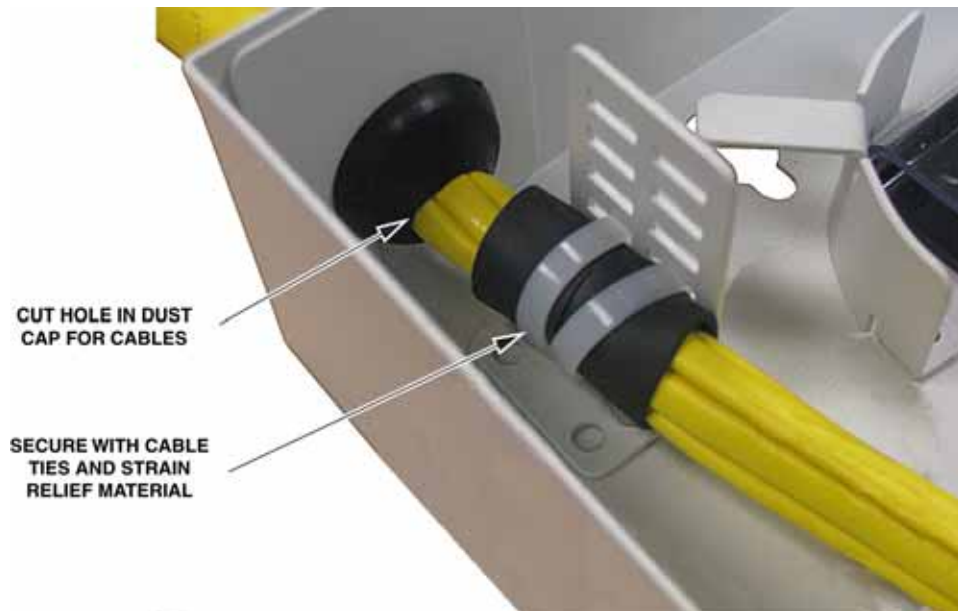

Figure 6. Lashing Cables to Cable Tie Down Plate - Typical Example
- Secure the cable to the cable tie down plate using two cable ties as shown in Figure 6. Wrap strain relief material around the cable to prevent the cable from being excessively compressed by the cable ties. Use two cable ties to secure the cable to the bracket.